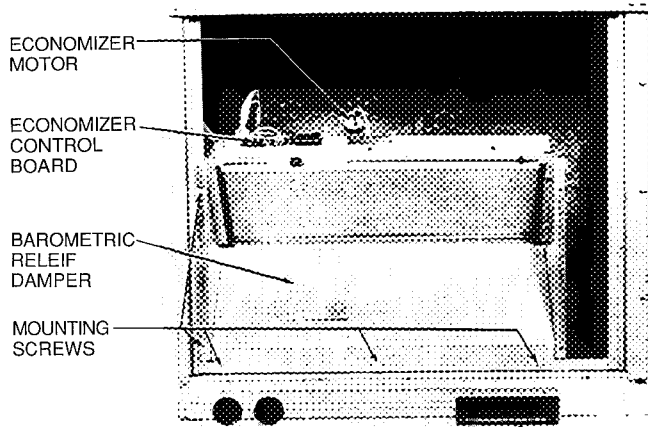

Fig. 19 – Economizer Installed in Unit
6. Remove screws securing barometric relief damper, if desired. See Fig. 19.
8. Insert economizer plug from the wiring harness (supplied with the unit) into the wiring plug on economizer control board. See Fig. 19.